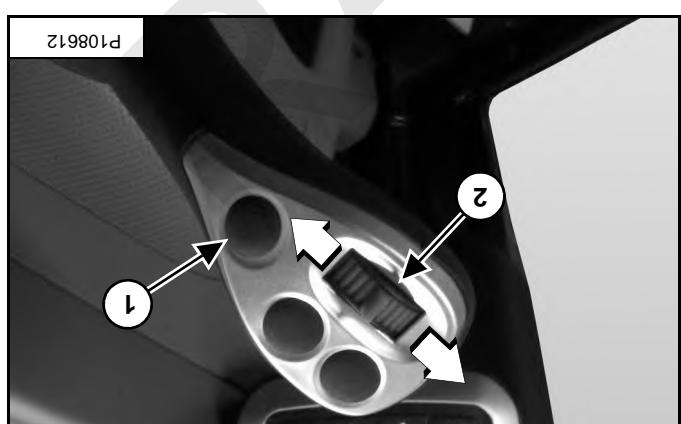

Figure 119
Pushing the switch (item 1) [Figure 119] down on the on direction.
Pushing the switch (item 1) [Figure 119] up on the right joystick to start auger rotation in the clockwise direction.
Press and release switch (item 1) [Figure 119] on the right joystick to start auger rotation in the clockwise direction. Press and release the switch again to stop auger rotation.